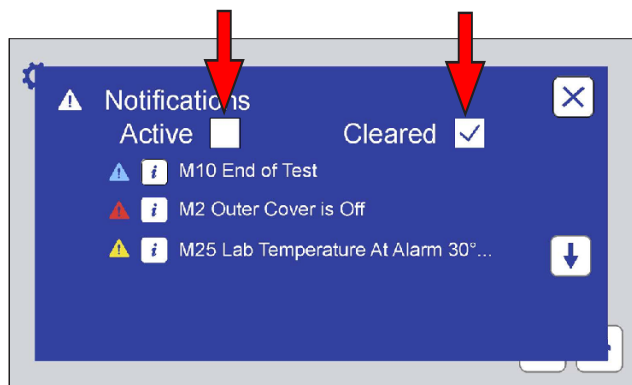
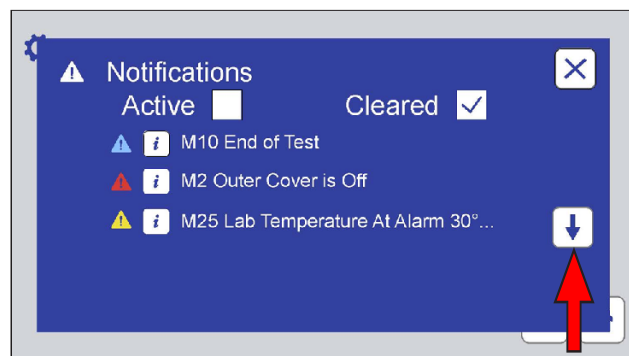

Figure 9.4c: Touch the Active or Cleared check box to view active or cleared notifications.
Figure 9.4d: Touch the scroll button(s) to move down or up the notification list.
- “Active” and “Cleared” notifications are listed separately, in chronological order, most recent at the top of the list (Figure 9.4c, Figure 9.4d).